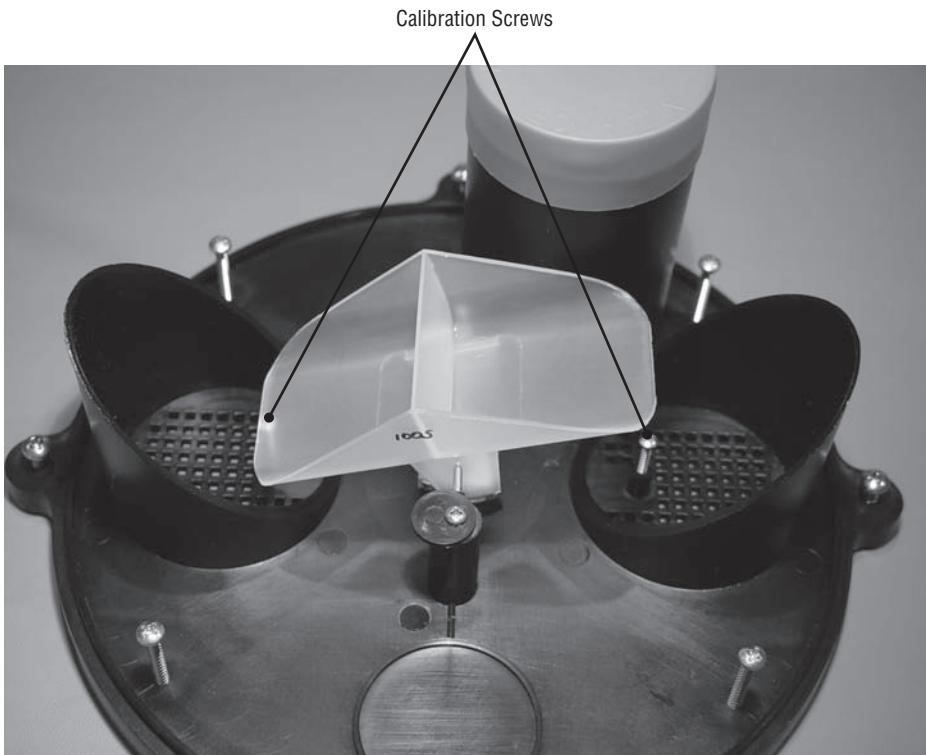

FIGURE 9-9: RainWise calibration adjustment screws.
- If the adjustment screws are located inside your rain gauge, remove the cover. Figure 9-9 shows the adjustment screws on the RainWise gauge.
- If the count was higher, you need to *lengthen* the travel of the tipping bucket arm. On gauges with the screws inside like the RainWise gauge in Figure 9-9, this means turning the screws clockwise (in). If your adjustment screws are on the outside, like Figure 9-2, you need to turn the screws counterclockwise (out).